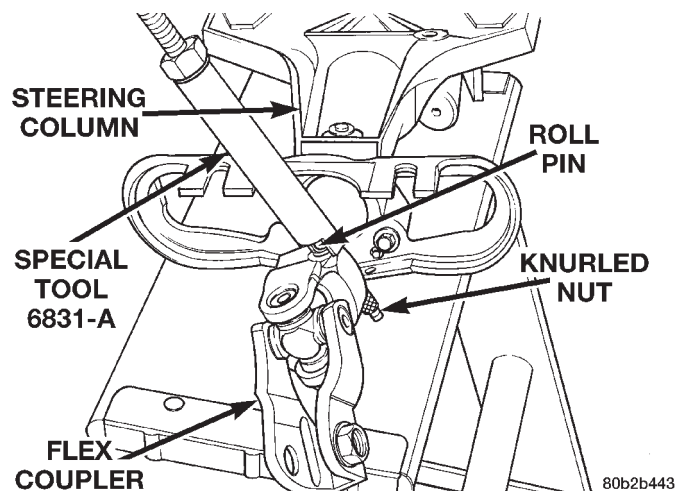

Fig. 29 Removing Roll Pin
(1) Remove steering column assembly from vehicle. Refer to the Steering Column Removal Section in this group of the service manual for the required removal procedure.
(2) Install Puller, Special Tool 6831-A, through center of roll pin in flex coupler and install knurled nut (Fig. 29).